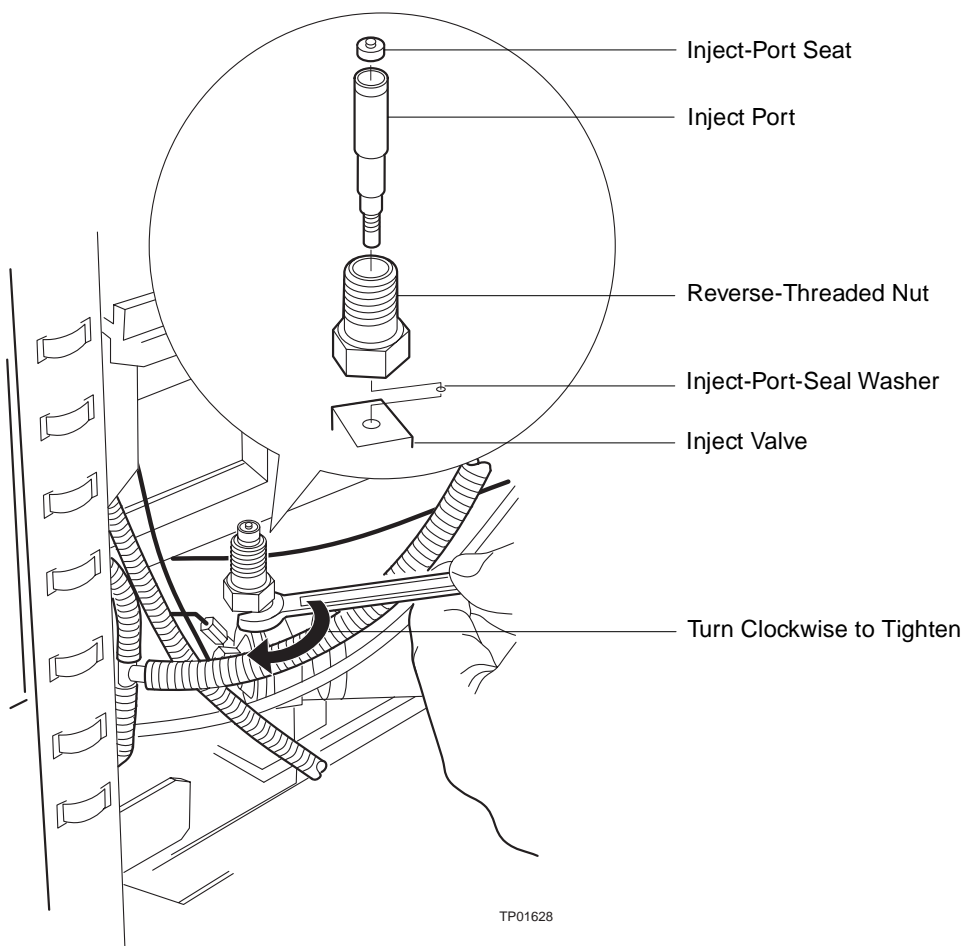

Figure 7-22 Removing the Inject-Port Seat and Inject-Port-Seal Washer from the Inject Port
8. Remove the inject port seat from the inject port (Figure 7-22).
1. Place a new inject-port seat into the inject port (Figure 7-22).
- a. Use the 3/16-inch wrench to loosen the inject port, then remove it from the inject valve (Figure 7-22).